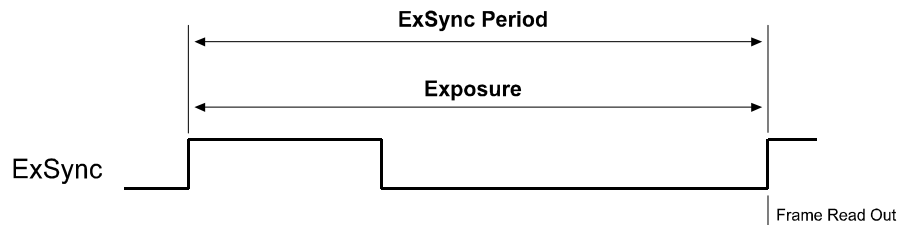

Figure 3-4: ExSync, Edge-controlled Mode
- In **ExSync, edge-controlled** mode, the pixels are exposed and charge is accumulated over the full period of the ExSync signal (rising edge to rising edge). The falling edge of the ExSync signal is not relevant. The frame is read out and transferred on the rising edge of ExSync (see Figure 3-4).